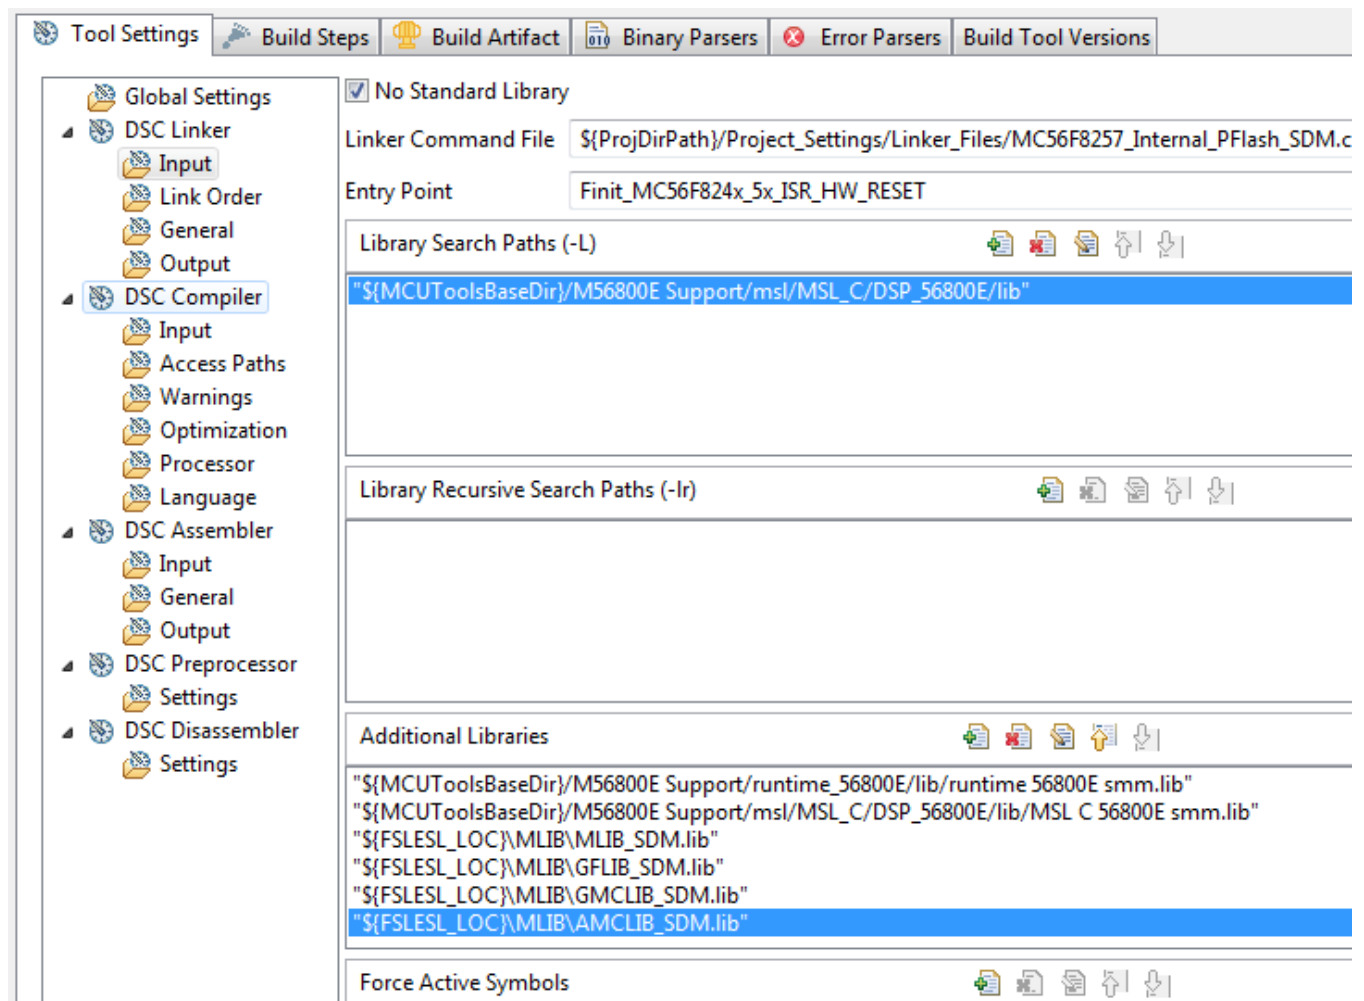

Figure 1-11. Linker setting
3. In the right-hand tree, expand the DSC Linker node, and click Input. See Figure 1-11.
15. Now, you will see the libraries added in the box. See Figure 1-11.